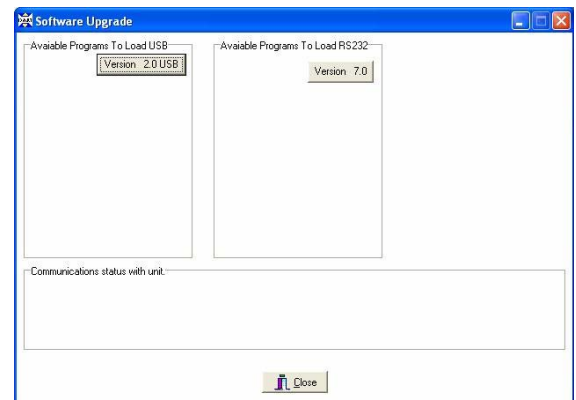

Figure 6
3. Pick the Version 2.0 USB Button (figure 6).